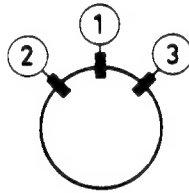

Fig. 4b
If the deflection unit is in the correct position, then place the wedges ② and ③, remove the paper strips and firmly press the adhesive side of these wedges against the glass of the picture tubes as shown in figure 4b or 5b.